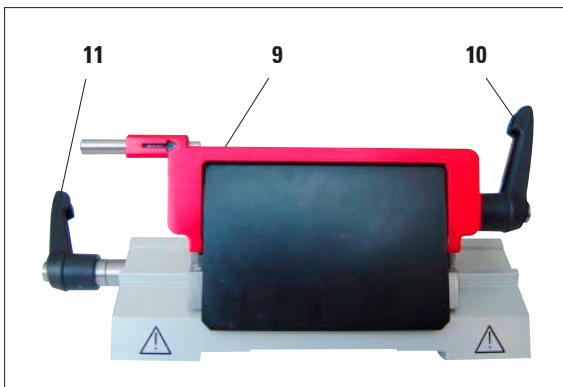

Fig. 6
The knife guard on knife holder E consists of a red foldaway handle. To cover the edge, turn the shackle (9) upwards as shown in Fig. 6.